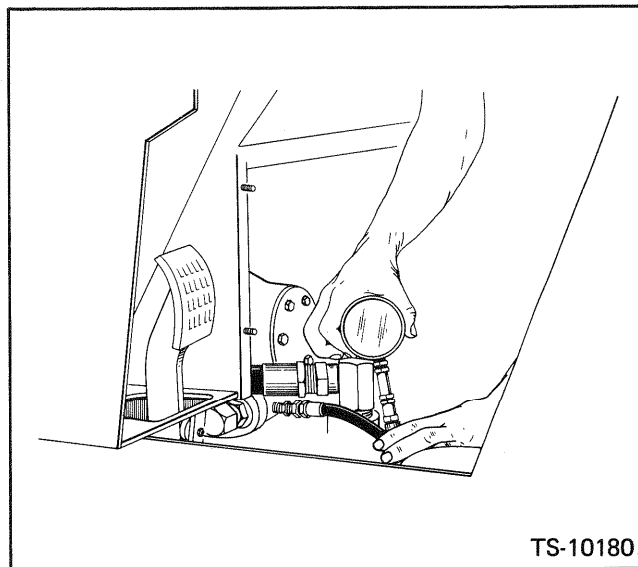

Fig. 5-2 Check Converter OUT Pressure
2. Install a gauge at the converter OUT pressure port located below the sender unit on the rear of the converter. Fig. 5-2.